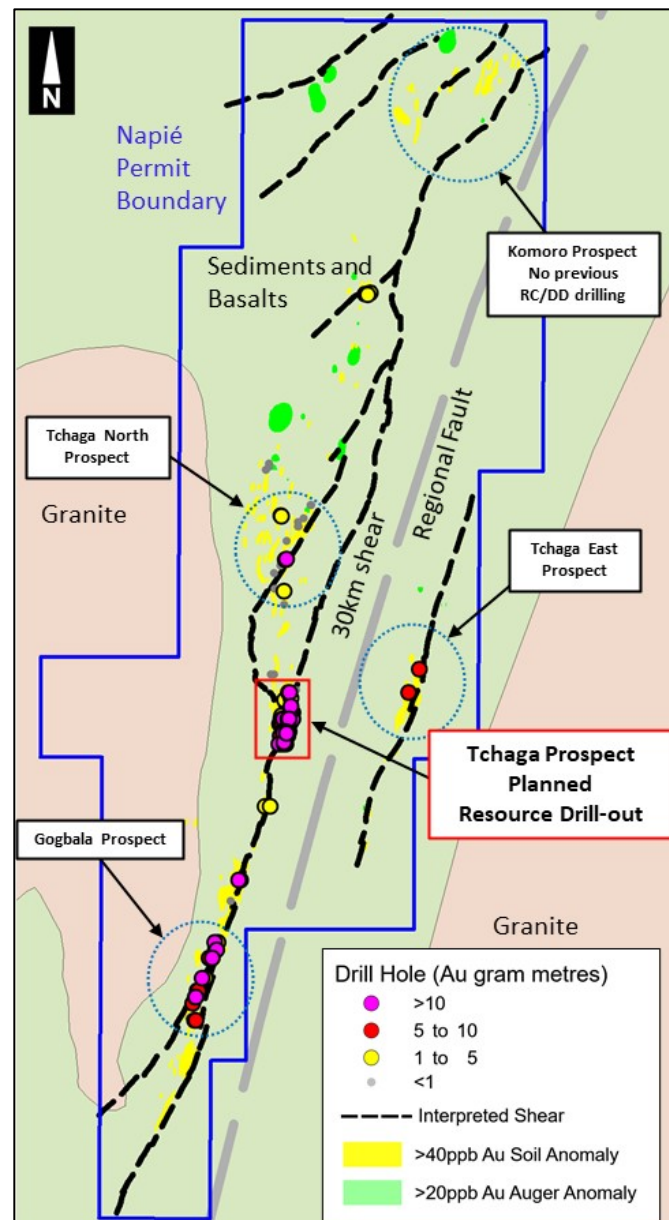

Figure 1: Napié Project with Tchaga Prospect in red rectangle
Mako Gold Limited (“Mako” or “the Company”; **ASX:MKG**) is pleased to advise that it has received its first assay results from the ongoing 10,000 metre reverse circulation (RC) and diamond drilling (DD) program on the Tchaga Prospect at the Company’s 224km² Napié Project in Côte d’Ivoire. The Tchaga Prospect is associated with a +40ppb gold soil anomaly coincident with a +30km-long shear zone, thought to be a major control for gold mineralisation (Figure 1).